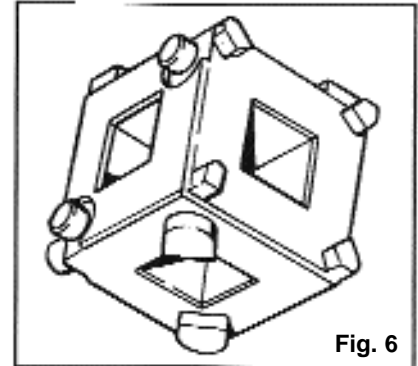

Fig. 6
**CAUTION:** If you are working on rear disc brakes (also some import front disc systems), a parking brake mechanism is incorporated into the calipers. The caliper pistons on these brake systems cannot be simply pushed back into the caliper. A screwtype assembly rotates the piston outward to keep the pads adjusted. The piston must be rotated in the opposite direction to retract the piston. There are several types of special tools available to accomplish this such as the one shown (Fig. 6). Refer to a Haynes repair manual for the correct procedures.